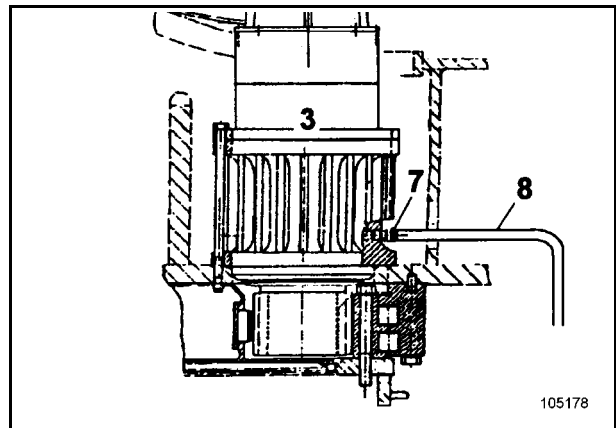

Fig. 3-113:
- Attach hose (8, Fig. 3-113:) to drain valve (7) and drain off oil completely.
The drain valve (7, Fig. 3-113:) is accessible from the undercarriage.